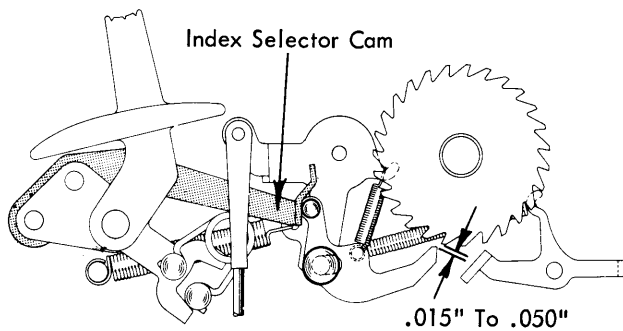

FIGURE 154. *Index Selection Cam Adjustment*
- a. (24 or 27 tooth ratchets) With the index cam latched at rest and the selection lever in the double line space position, adjust the selection cam front to rear so that the index pawl clears the platen ratchet by .015" to .050" (Fig. 154).